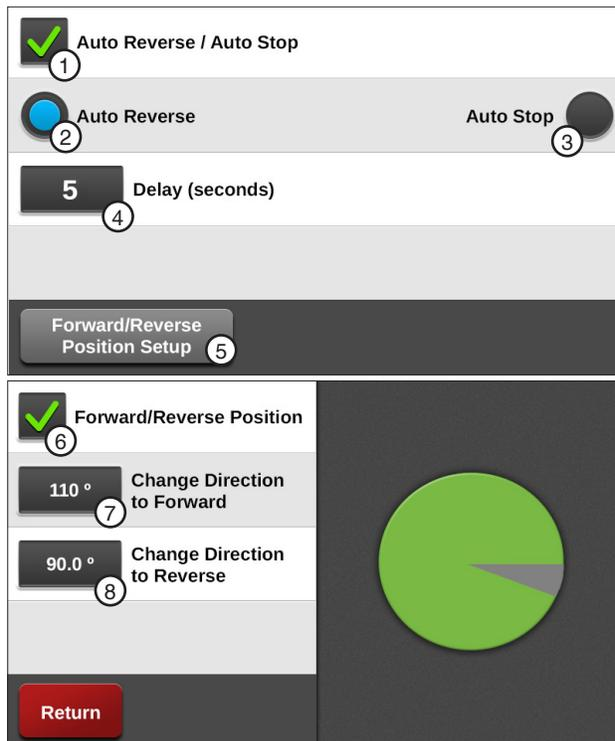

Figure 72-1
2. Check the **Auto Reverse / Auto Stop** checkbox to enable AR / AS or uncheck the Auto Reverse / Auto Stop checkbox to disable AR / AS. Refer to Figure 72-1.
1. Push **Menu, Utilities** and **AR / AS** and push the **Forward / Reverse Position Setup** button to display the Forward / Reverse Position Setup screen. Refer to Figure 72-1.